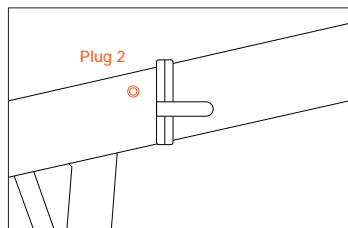

Figure 2
Step 3: Remove the rubber cover on the charging socket and insert the DC plug (Plug 2) of the charger into the battery charging socket (fig. 2).